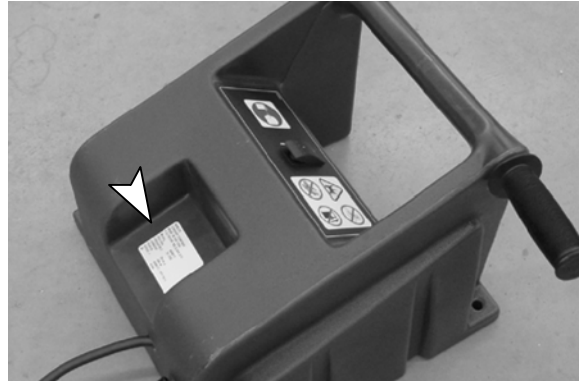

Fig. 6
8. Transfer the serial number tag from the old handle to the new handle for future reference (Figure 6).